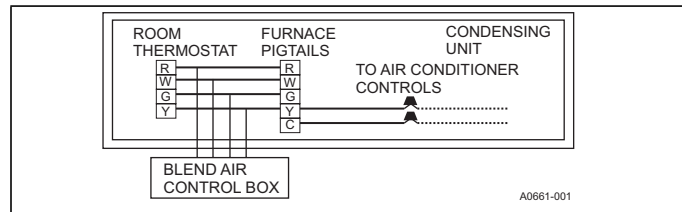

Figure 21: Wiring for blend air accessory
3. Connect thermostat wires to the furnace when installing blend air accessory as shown in Figure 21.
Only use the appropriate roof jack. See Figures 21 and 22 for correct application.
Do not exceed the maximum height as determined from Figures 21 and 22. Installer should allow an additional 1 1/2 in. travel before the flue pipe assembly is fully extended against the built-in stop. This provides an additional safeguard against the flue assembly being pulled from the roof jack during transportation or other stress conditions.